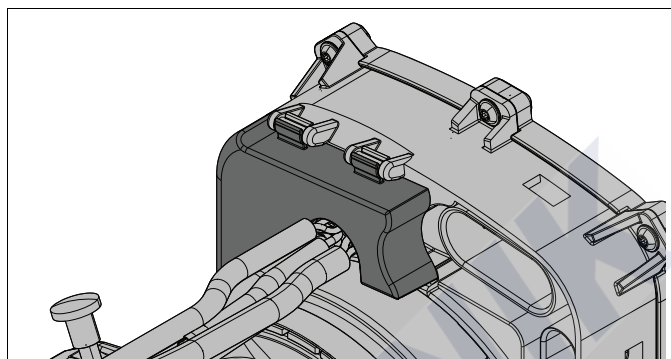

Fig. 802 Control unit cover
1. Remove control unit cover (see Fig. 802)